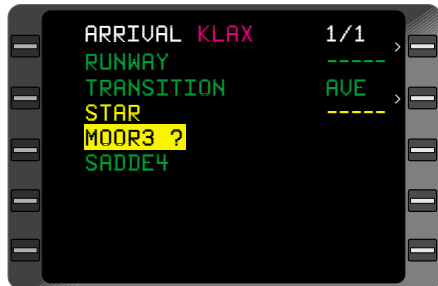

Figure 3-46
7. Line Select Key - DEPRESS to position cursor over the desired **STAR**. See Figure 3-46.